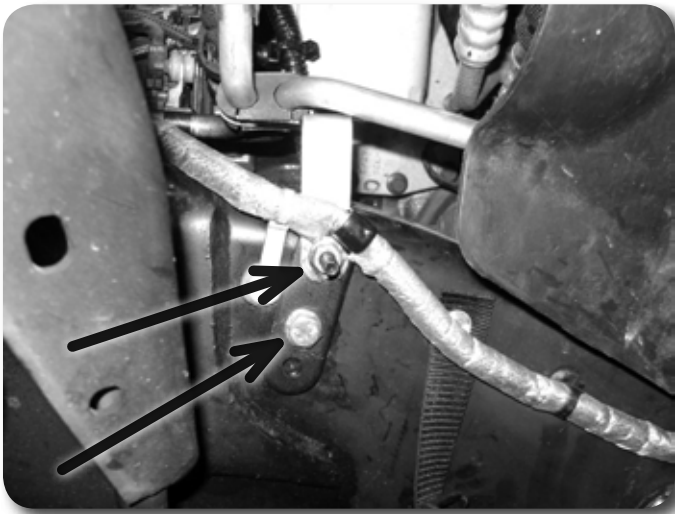

Figure 19
27. Attach transmission cooler extension to frame rail on passenger's side with factory hardware and 1/4"nylock nut with washer. Figure 19